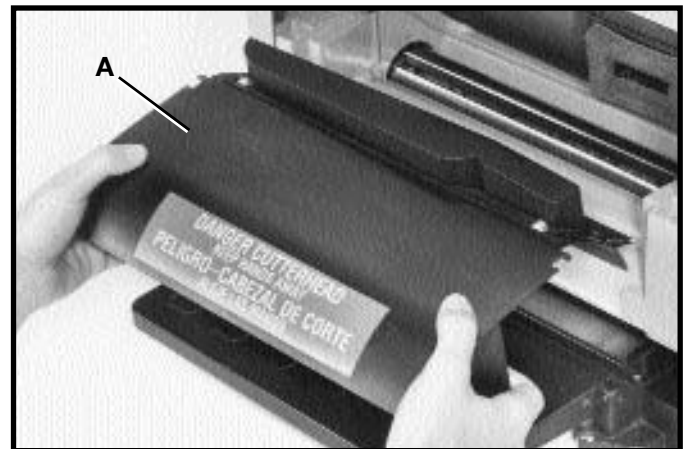

Fig. 19
3. Remove chip deflector (A) Fig. 19.
9. Replace chip deflector (A) Fig. 19.
10. Replace chip deflector (A) Fig. 19.